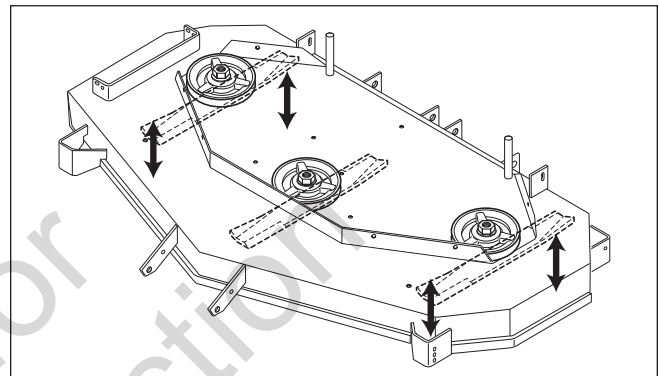

Figure 42. Checking The Blade Height Measurement
7. For your safety, DO NOT handle mower blades with bare hands. Position the outside mower blades so that they face front-to-back (Figure 42).